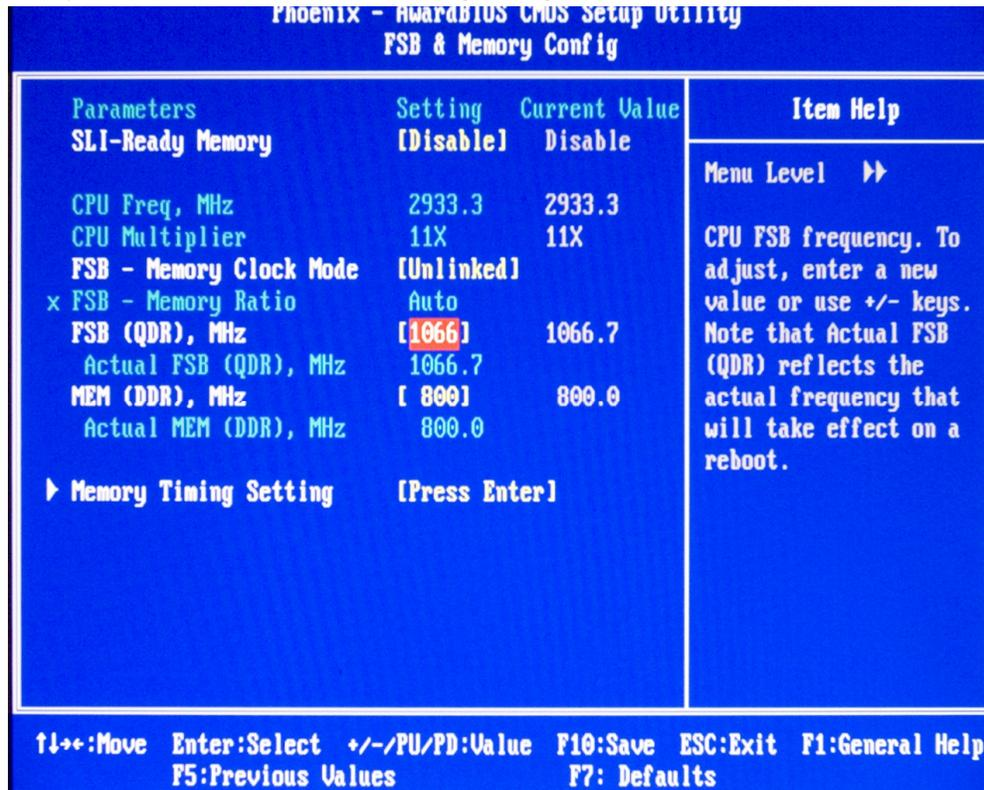

Figure 6. Frontside Bus Settings
5. If you select FSB (QDR), MHz you are able to input a new value. Enter your desired FSB value as shown in Figure 6.